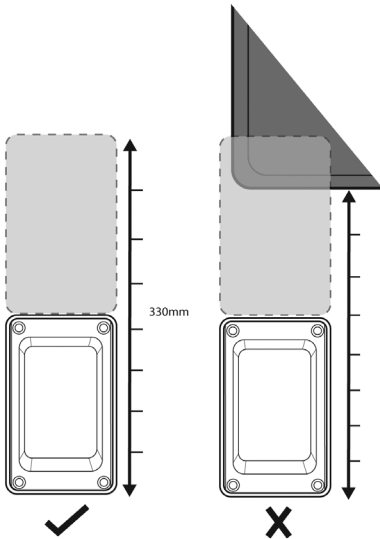

Figure 2.
- (Figure 2) Ensure you have enough free wall space for the installation including enough clearance for the Whale Easi-Slide Lid when installing and open.